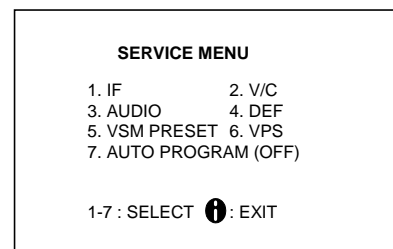
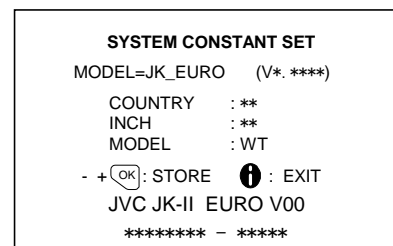

Fig.1
Fig.2
<p>(4) Check and set SYSTEM CONSTANT SET: * It must not adjust without signal. 1) Press the INFORMATION key and the MUTING key of the REMOTE CONTROL UNIT simultaneously. 2) The SERVICE MENU screen of Fig. 1 will be displayed. 3) While the SERVICE MENU is displayed, press the INFORMATION key and MUTING key simultaneously, and the SYSTEM CONSTANT SET screen of Fig. 2 will be displayed. 4) Check the setting values of the SYSTEM CONSTANT SET of Table 1. If the value is different, select the setting item with the FUNCTION UP/DOWN key, and set the correct value with the FUNCTION +/- key. 5) Press the MENU key to memorize the setting value. 6) Press the INFORMATION key twice, and return to the normal screen.</p>